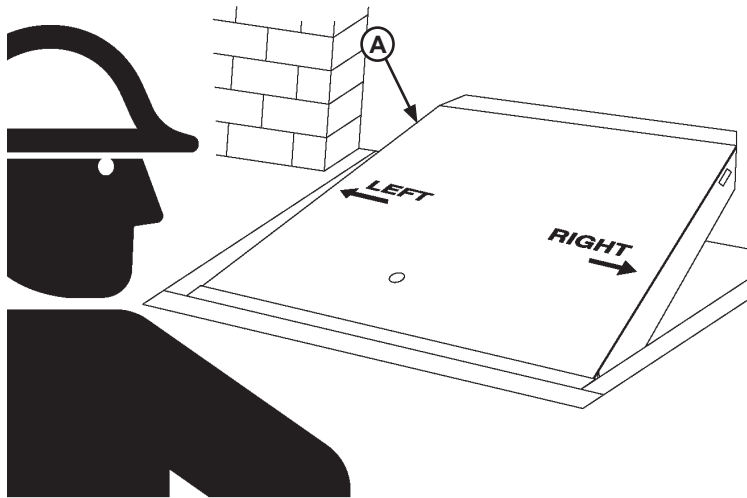
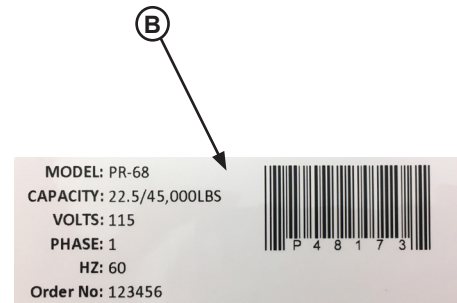

Figure 29
Figure 30
**NOTE:** Refer to Figure 29 for left/right orientation of dock leveler and Figure 30 for example of decal.